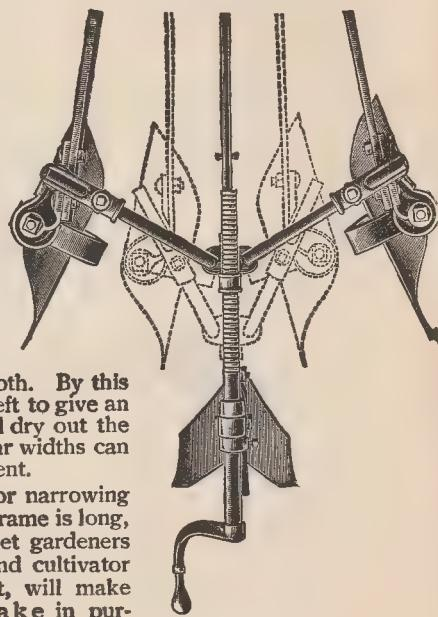

Fig. 166
**The Screw Expander.**—It is true the screw expander (more plainly shown in Fig. 166) cannot be changed as rapidly as the lever expander, as shown applied to our No. 6 Iron Age Horse Hoes, yet the rigidity is the same at any and every point from the widest expansion, 28 inches, to its narrowest, or to a point where the standards come together and make the hillling blades practically a double mold-board plow, in which position it is used largely for opening furrows. There is no width at which the side bars may be set but that they will be held rigid and even without the slightest tendency to close up when the gangs are closed in for very narrow work. By reason of the fact that the change in width is made by a screw instead of a lever having a pawl to engage in a rack of a certain number of notches, it does not require a certain amount of change to hold it securely, but a very slight change may be made.
In Fig. 166 we plainly show the set screw in the casting connected with the side bar, which is designed for the purpose of giving adjustment to the connecting rods of this expander, thus adapting it for the cultivation of either wide or narrow rows and yet all the time obtaining the same rigidity. Furthermore, this same set screw allows for the setting of one side bar in or out further than the other. In cultivating growing crops, in going twice to the row, it is often desired to set the right hand side bar in, so the outside tooth running next to the crop will not leave a furrow, but it will be filled up by the rear tooth. By this plan the crop will not be endangered by a furrow having been left to give an opportunity for the sun and wind to absorb the moisture and dry out the rootlets. The setting of the side bars at irregular widths can not be accomplished by an ordinary lever adjustment.